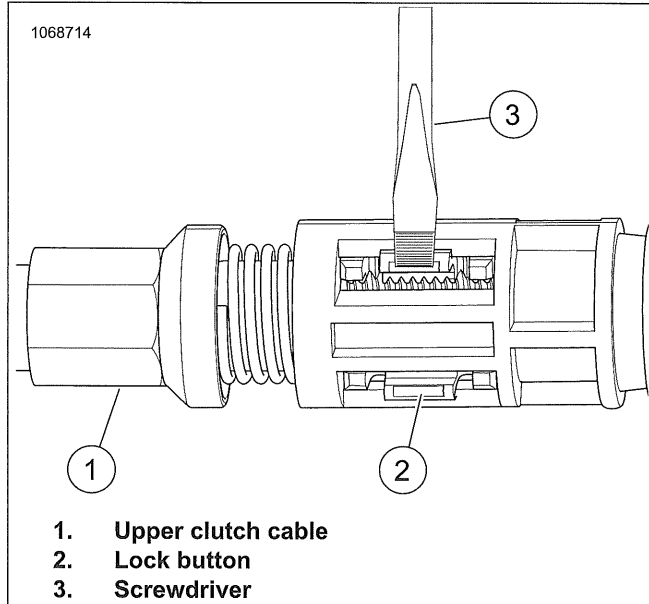

Figure 2-26. Compressed Upper Clutch Cable
3. See Figure 2-26. Unlock upper clutch cable (1).
- a. Place flat side of screwdriver (3) on tab of lock button (2).
7. See Figure 2-26. Disengage lock button (2) allowing upper clutch cable spring (1) to set free-play at clutch lever.